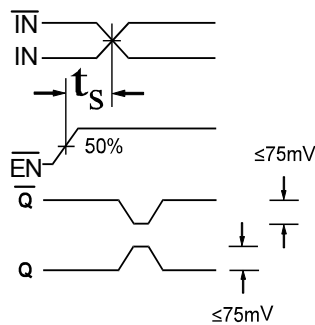

Figure 1. Setup Time
- The setup time is the minimum time that $\overline{\text{EN}}$ must be asserted prior to the next transition of IN/ $\overline{\text{IN}}$ to prevent an output response greater than $\pm 75\text{mV}$ to that IN/ $\overline{\text{IN}}$ transition (see Figure 1).